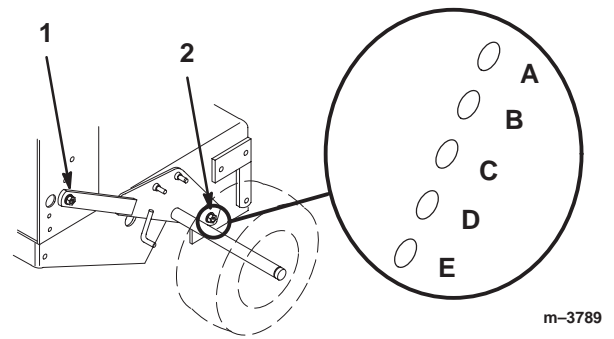

Figure 22
- Loosen but do not remove the 2 axle pivot bolts and the 2 axle adjustment bolts (Fig. 22).
- Place a jack under the rear center of the engine frame. Raise the back end of the engine frame up enough to remove front 2 axle adjustment bolts (Fig. 22).
- Raise or lower the engine frame with the jack, so that front 2 axle adjustment bolts can be installed in the desired hole location (Fig. 22). A tapered punch can be used to help align the holes.